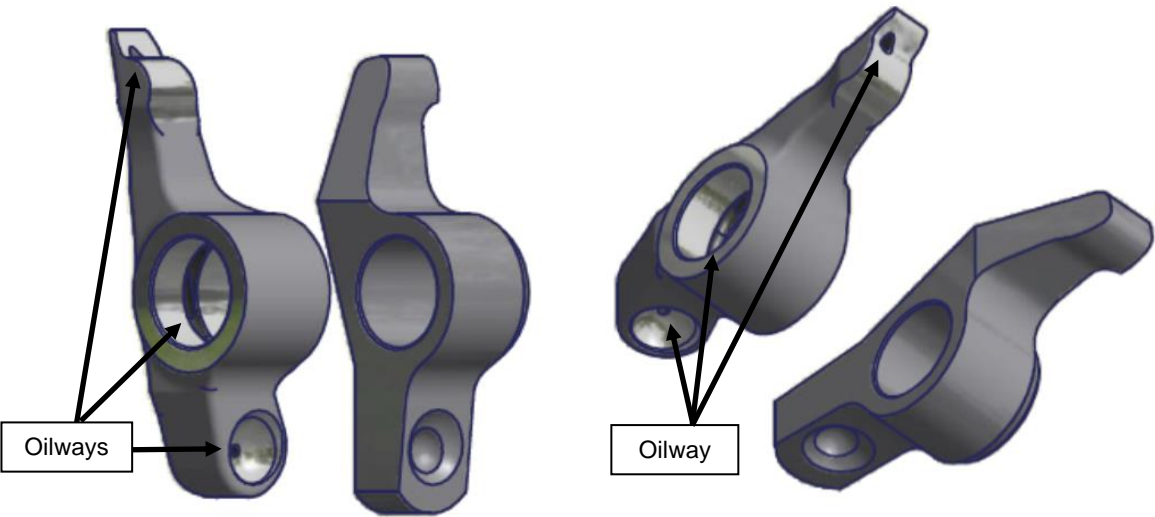

Figure 102 – Solid VS Hollow Valve Rockers
- For engines using the hollow pushrod lubrication system the valve rockers are equipped with an oilway running from the pushrod socket to the tip of the rocker (see Figure 102). This oilway also feeds into a groove in the bush installation bore. At overhaul or when new parts are fitted these oilways must be inspected visually and using a fine probe (such as a 1.0mm drill bit) to ensure they are open and free of obstructions. After probing blow the oilways out with compressed air to shift any debris.